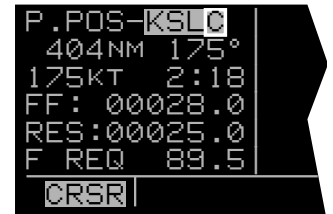

Figure 5-7
4. Use the left inner and outer knobs to enter the identifier of the selected waypoint (figure 5-7).